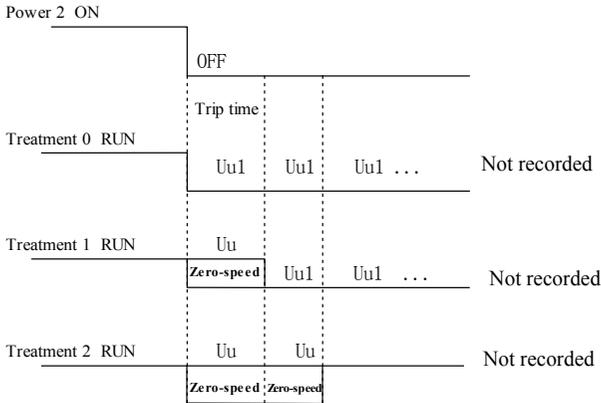

Figure. 5-1-8 Trip-free diagram
- ◆ If under-voltage occurs at stopped state, it only give an alarm of  $U_u$ , at this time, the motor cannot be started. As shown in Fig. 5-1-8:
- ◆ If under-voltage occurs during running, it will give an alarm of  $U_u$  or  $U_{u1}$  as shown in Fig. 5-1-8; when  $U_u$  occurs, the pulse will be locked and the inverter will run at 0Hz frequency.  $U_u$  will disappear after the recovery; when  $U_{u1}$  occurs, the inverter will stop, if the voltage continues to drop to 300V or less, it will not be regarded as a fault record or a fault output; it will record fault  $U_{u1}$  after the recovery.